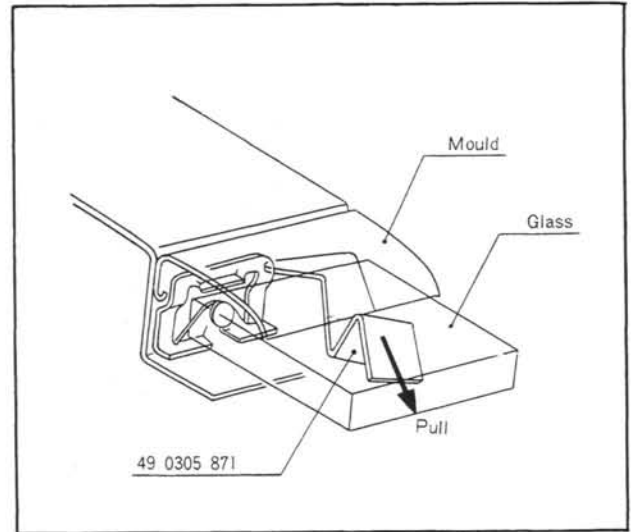

Fig. 14-3 Removing of mould
3. Using the **mould remover** (49 0305 871), remove the mould in the manner shown in Fig. 14-3.